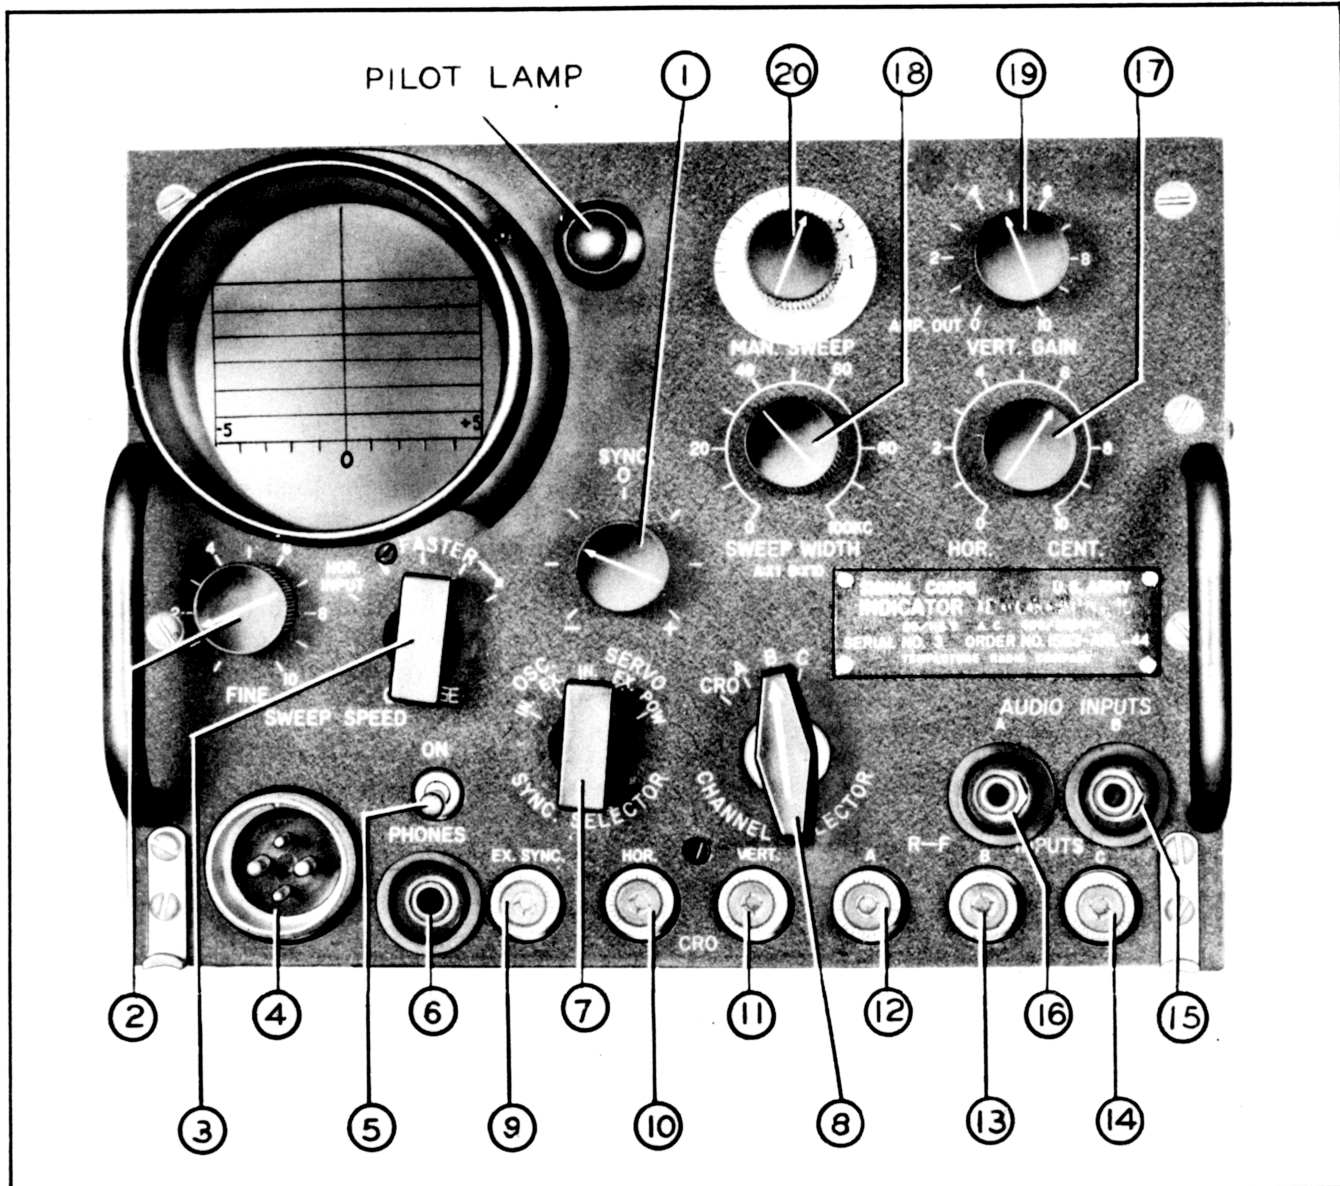

Figure 1-2. Indicator ID-60/APA-10—Panel View
(1) Panoramic presentation provides a picture of all signals present within a band of frequencies, and shows the nature of each signal, its frequency, and its relative strength.
(2) Aural presentation enables an operator to tune a receiver to an exact signal frequency and to hear coding or voice modulated signals.
(3) Oscillographic presentation enables an operator to examine one particular signal, to determine the type modulation used and to see any coding which might be present.
(4) Oscilloscopic presentation enables the operator to use this instrument as an ordinary oscilloscope in testing other devices. (See fig. 1-2.)
Panoramic Adapter AN/APA-10 is made up of seven sub-assemblies each mounted on its own chassis, and of plug-in construction. (See figs. 1-3 and 1-4.) Connections are made to the main chassis by means of banana pin jacks. For maintenance purposes, a defective chassis can be quickly replaced by a good one and it is not often necessary to send the entire unit to a repair depot. The entire assembly is contained in a Standard Aircraft Radio Case, SARC B1-D, and is mounted on Mounting Base MT-171/U. Controls and the screen of the cathode ray tube are on the front panel as shown in figure 1-2.